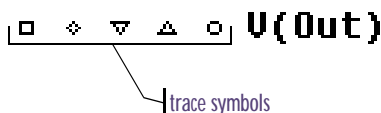

Figure 93 Trace legend symbols.
- 1 In the trace legend, double-click the symbol for the trace you want to identify (Figure 93).